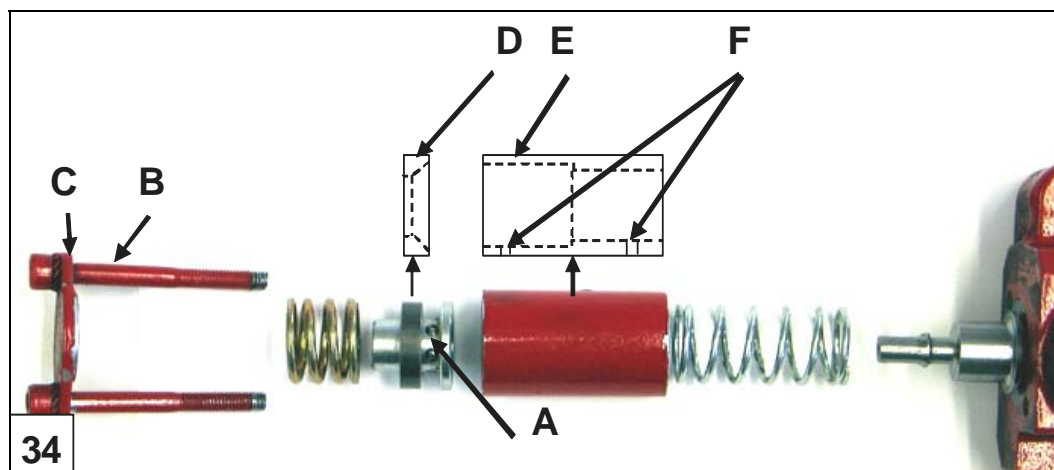

Fig. 34. Structure of the valve's detent end
7.12 Structure of the detent end and the correct order of the parts, Fig. 34